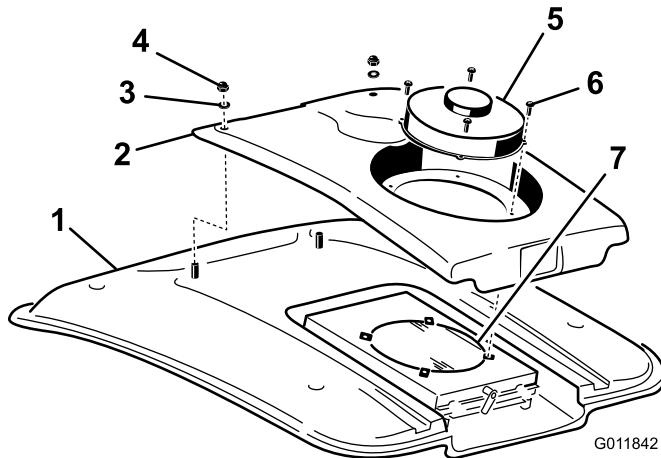

Figure 104
2. Remove the (4) screws securing the fan and the condenser cover to the fan mount (Figure 104).
4. Remove the two nuts and washers securing the front of the condenser cover to the cab roof (Figure 104).
8. Clean the air conditioning condenser thoroughly with compressed air (Figure 104).